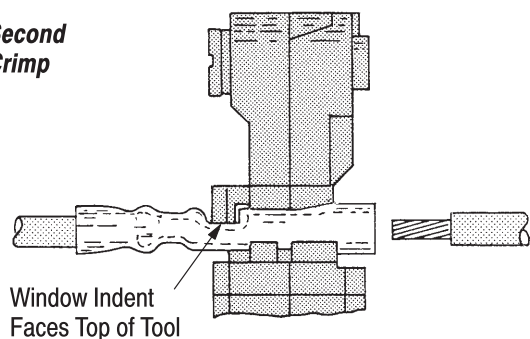

Figure 4
4. Raise locator and place splice under locator as shown in Figure 4. Splice window indent faces top of tool.
To properly position pre-insulated sealed splice, apply and maintain pressure against end of splice until Step 5 is completed. See Figure 4.
6. Insert stripped wire into terminal until conductor butts against locator. See Figure 3. Insert stripped wire into splice until conductor butts against splice wire stop. See Figure 4.